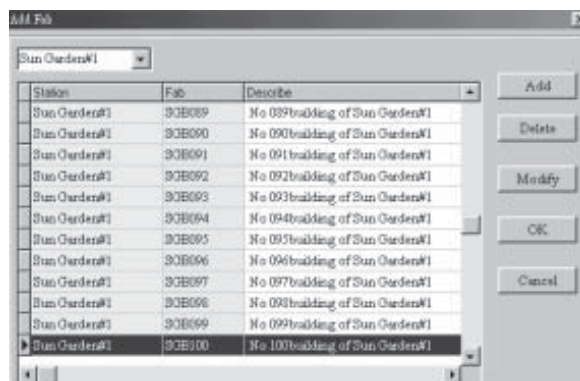

Fig. 4-9 Completing the Add of 100 Controllers
2.3 Repeat the above operations and add 100 controllers into the Station Sun Garden #1 one by one as in Fig. 4-9.